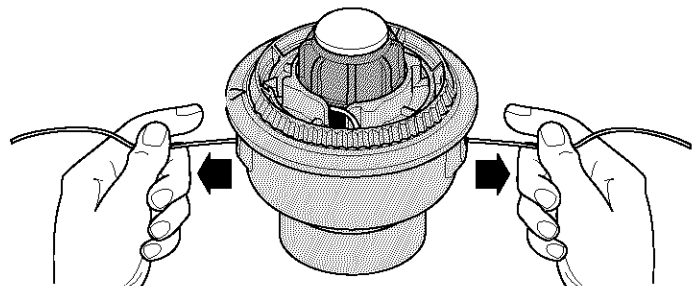

Fig. 25
9. If winding the line becomes difficult or if the line jams, pull the ends of the line from the spool (Fig. 25). Continue winding the inner reel counterclockwise.
4. Hold the inner reel in place and install the bump knob, spring and foam seal. Press down and turn the bump knob clockwise. Grasp the ends and pull firmly to release the line from the holding slots in the inner reel (Fig. 25).
If the SpeedSpool® does not release line correctly, pull the ends of the line firmly from the spool (Fig. 25). If this does not release the line, follow the *Cleaning the SpeedSpool®* instructions.